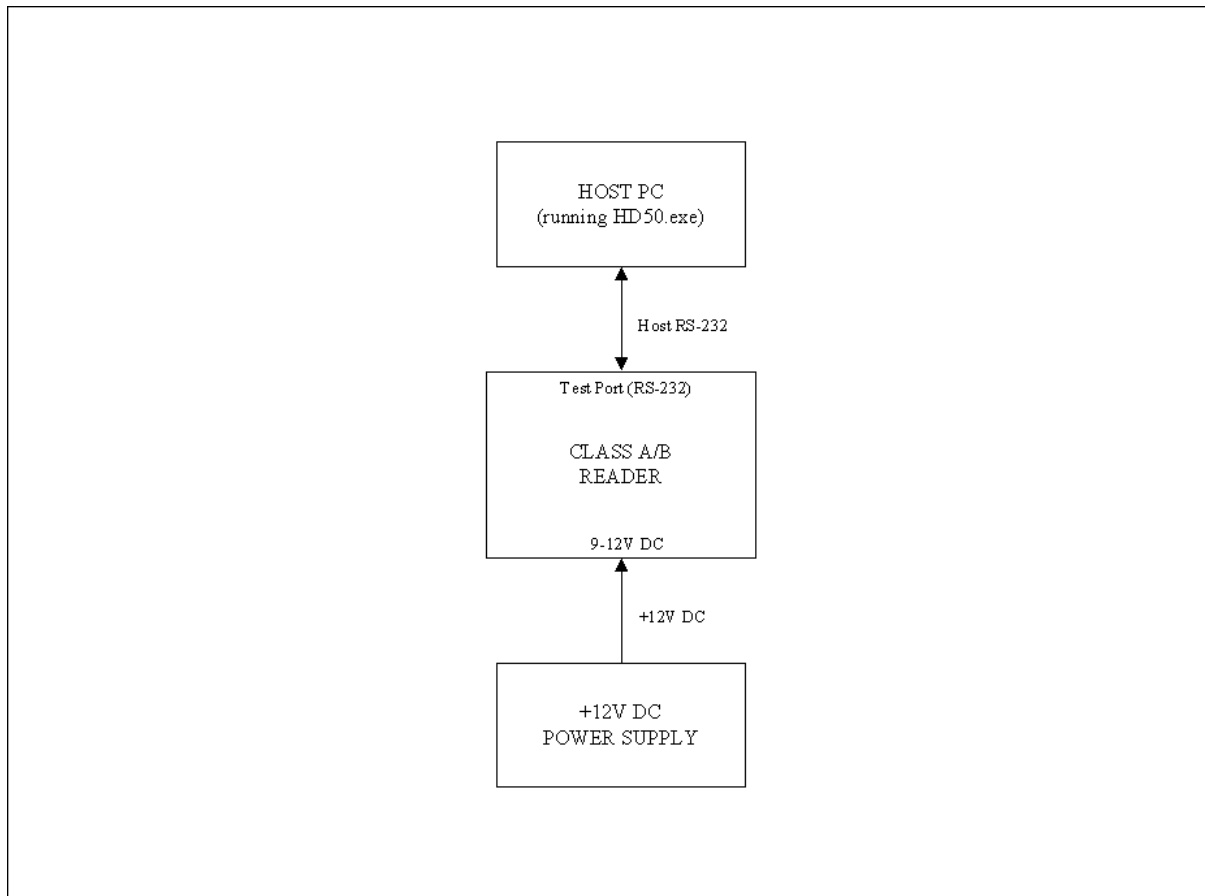

Figure 2-Reader Operational Setup Using HD Version 5.0
- Connect the system per Figure 2.